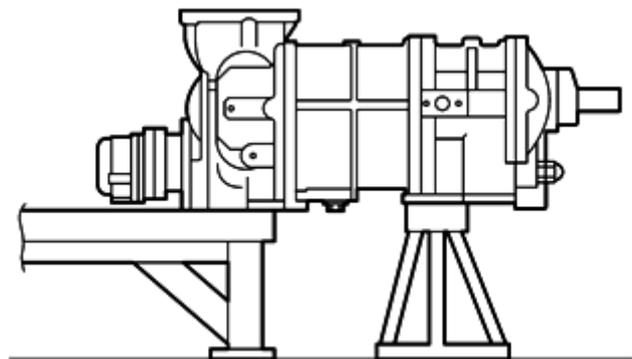

Figure 5-2 In case of using temporary stand
After lifting up the compressor, place it on a special stand to remove hexagon head cap screws around the bottom flange part. Instead of using the special stand, you can use the temporary stand which has same height as the workbench, i.e., place the leg part of the suction cover on the workbench and place the leg part of bearing head on the temporary stand as shown in Figure 5-2.
- Place the compressor on the special stand or use a temporary stand as shown in Figure 5-2. Then remove 6 to 8 hexagon head cap screws around the bottom flange part tightened rotor casing [1] to suction cover [5] / bearing head [11].